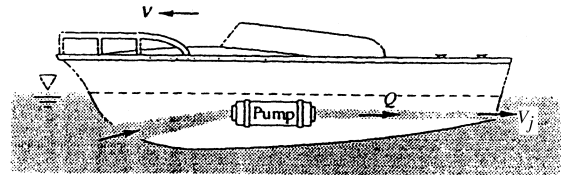

Fig. P3.88
3.88 The boat in Fig. P3.88 is jet-propelled by a pump which develops a volume flow rate Q and ejects water out the stern at velocity V_j . If the boat drag force is $F = kV^2$, where k is a constant, develop a formula for the steady forward speed V of the boat.